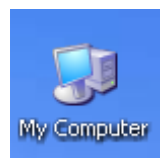
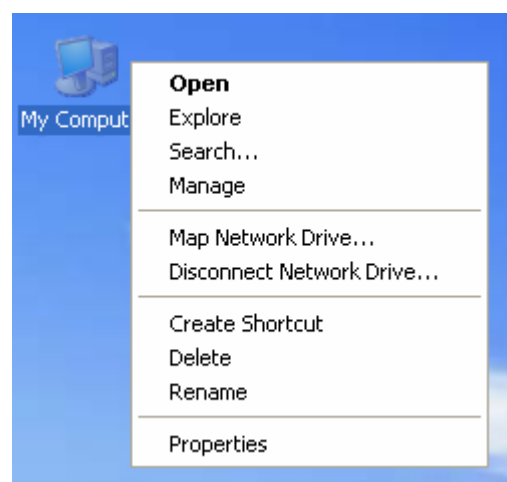

Figure 3-1
Figure 3-2
(1) Right click My Computer icon (Figure 3-1) on the desktop to pop up the menu as indicated in Figure 3-2.
(2) Select “Properties” in Figure 3-2 and right click to show the window as indicated